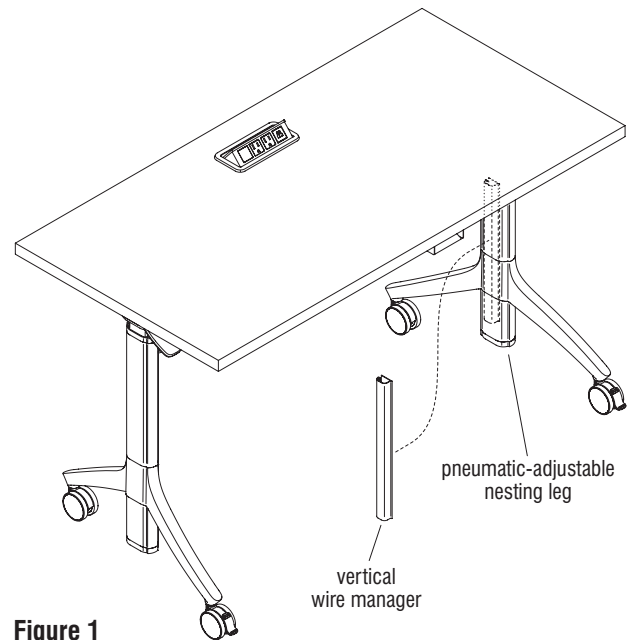

Figure 1
1. Position the vertical wire manager in the desired location against the leg which is closest to a power source. Align the vertical wire manager centered, straight along the leg, and top of the wire manager to be 2” down from the bottom of the stringer. Then mark the location of the wire manager and move the unit away (Figure 1).
2. Remove the adhesive backing from the vertical wire manager to expose the adhesive surface. Position the wire manager back to the marked location, centered on the leg, and press firmly along the adhesive area (Figure 1).